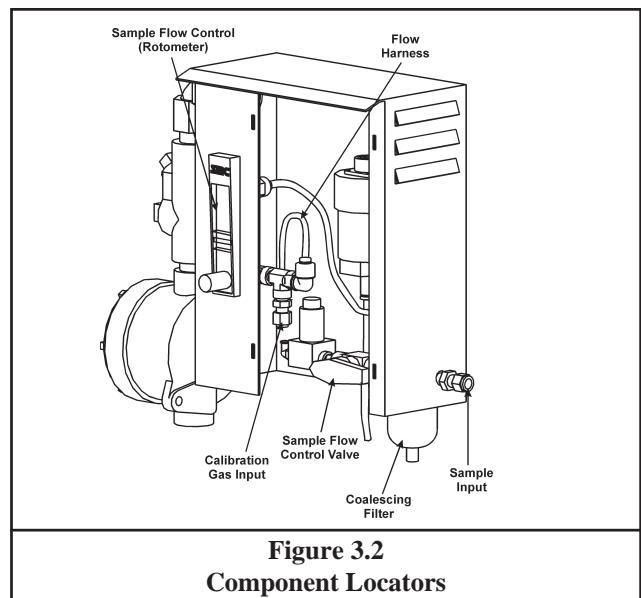

Figure 3.2
2. From the sample source provide a 1/4” OD stainless steel tube for connection to the sample input port on the right hand side of the monitor. See Figure 3-2.
5. To remove the harness (see Figure 3-2) twist the white leuc fitting located immediately behind the sample flow control counter-clockwise 1/2 turn and unseat it from the connecting port. Remove the other end of the harness from the sensor manifold. To disconnect from the manifold, push the black ring upward and simultaneously pull the tubing downward.
4. Remove the cap on the Calibration Gas Input (Figure 3-2).